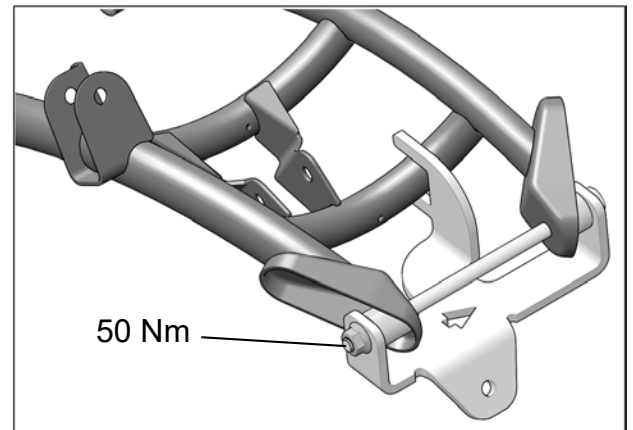

Fig. 8
8. Tighten assembly to 50 N•m [37 lb•ft] of torque. See Fig. 8